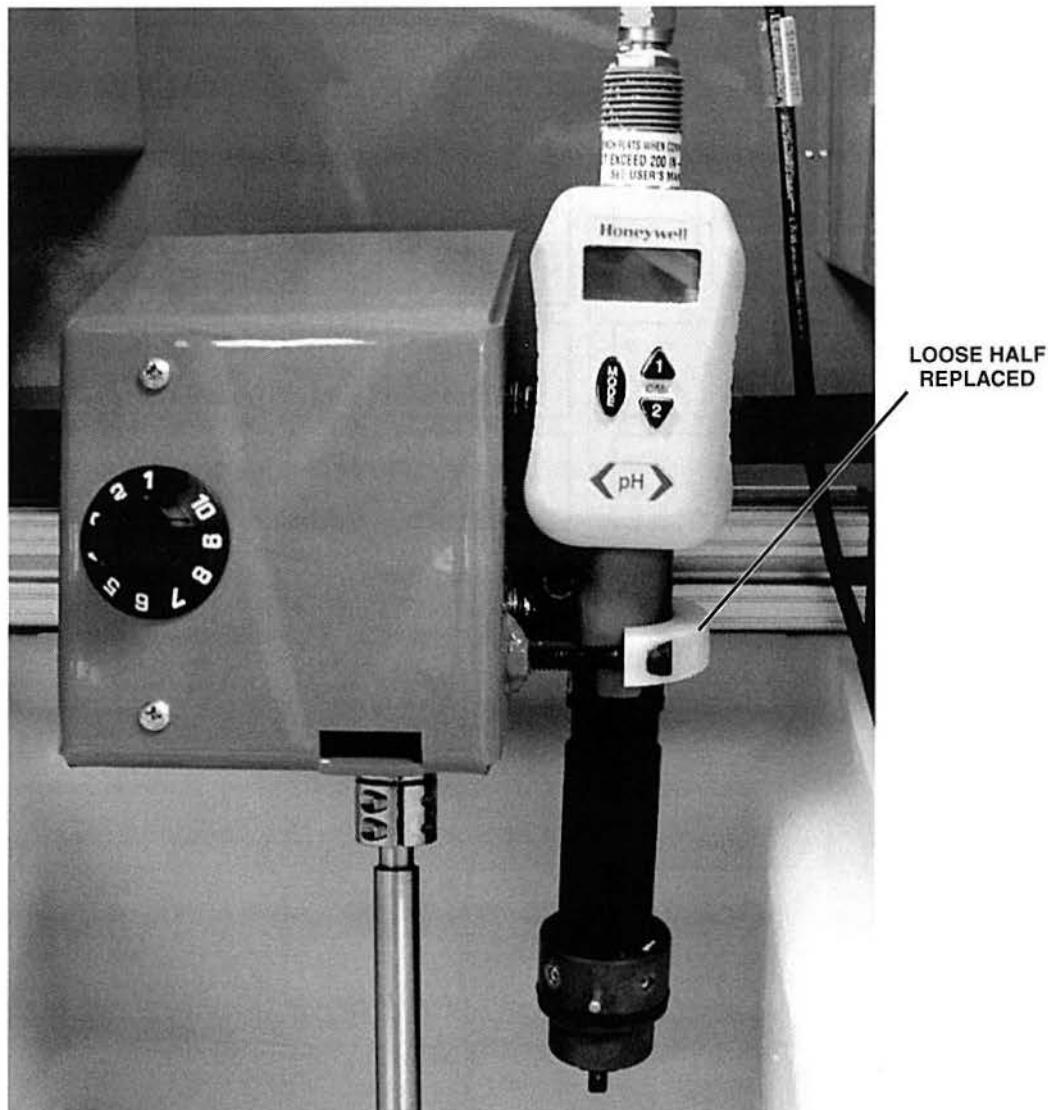

Figure 36. Loose Half of the Mounting Bracket Replaced
- C. Replace the loose half of the mounting bracket around the electrode, as figure 36 shows, and tighten the screws using the 3/16 hex wrench.